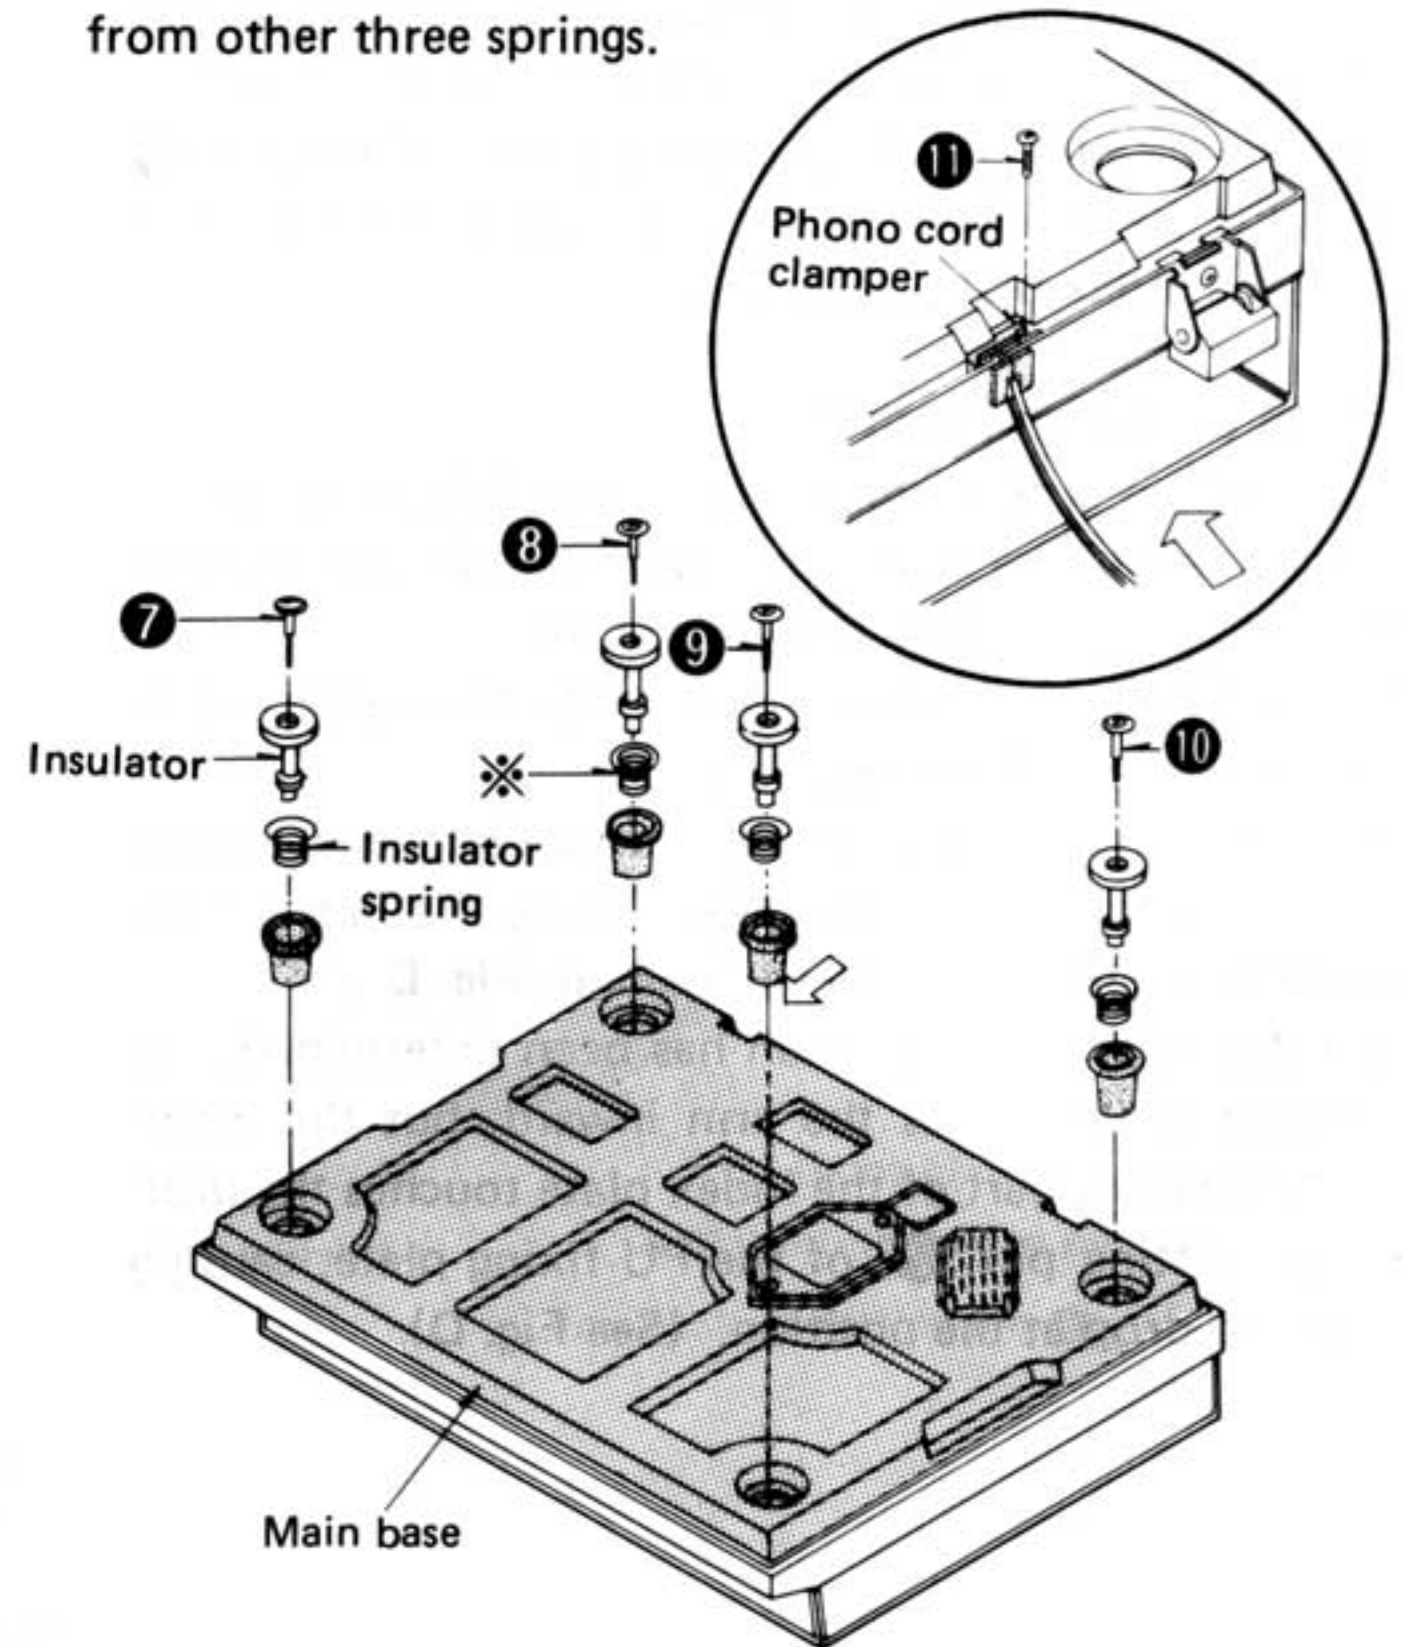

Fig. 2
7. Remove the insulator setscrews ⑦ ~ ⑩ and phono cord clamber setscrew ⑪. (See Fig. 2)